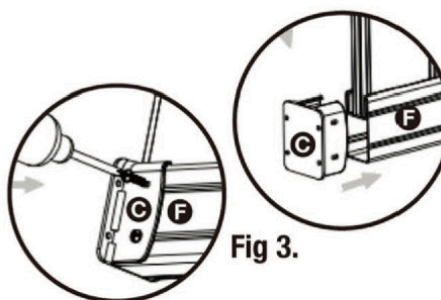

Fig 3.
1. Measure the distance between posts. If necessary, use a hack saw to cut Top and Bottom Rails (F) to fit. Be sure to cut equally from either end.
2. Use screws (D) to fasten Rail Bracket (C) to Top & Bottom Rails (F). (See Fig 3.)